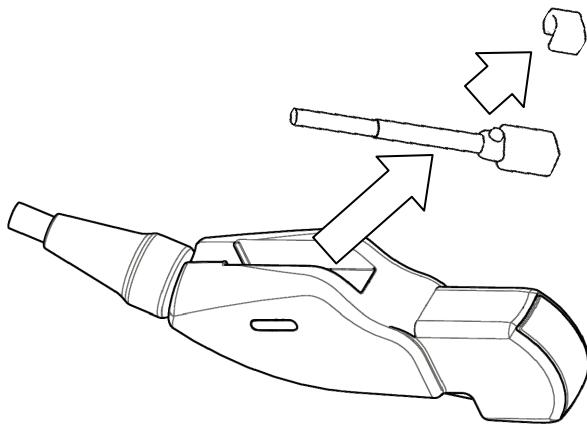

Fig.6 How to release the Magnetic sensor from the groove of the probe
- b) Release the Magnetic sensor from the groove of the probe as shown in Fig.6 and release the Spacer for EZU-RV2S from the Magnetic sensor.